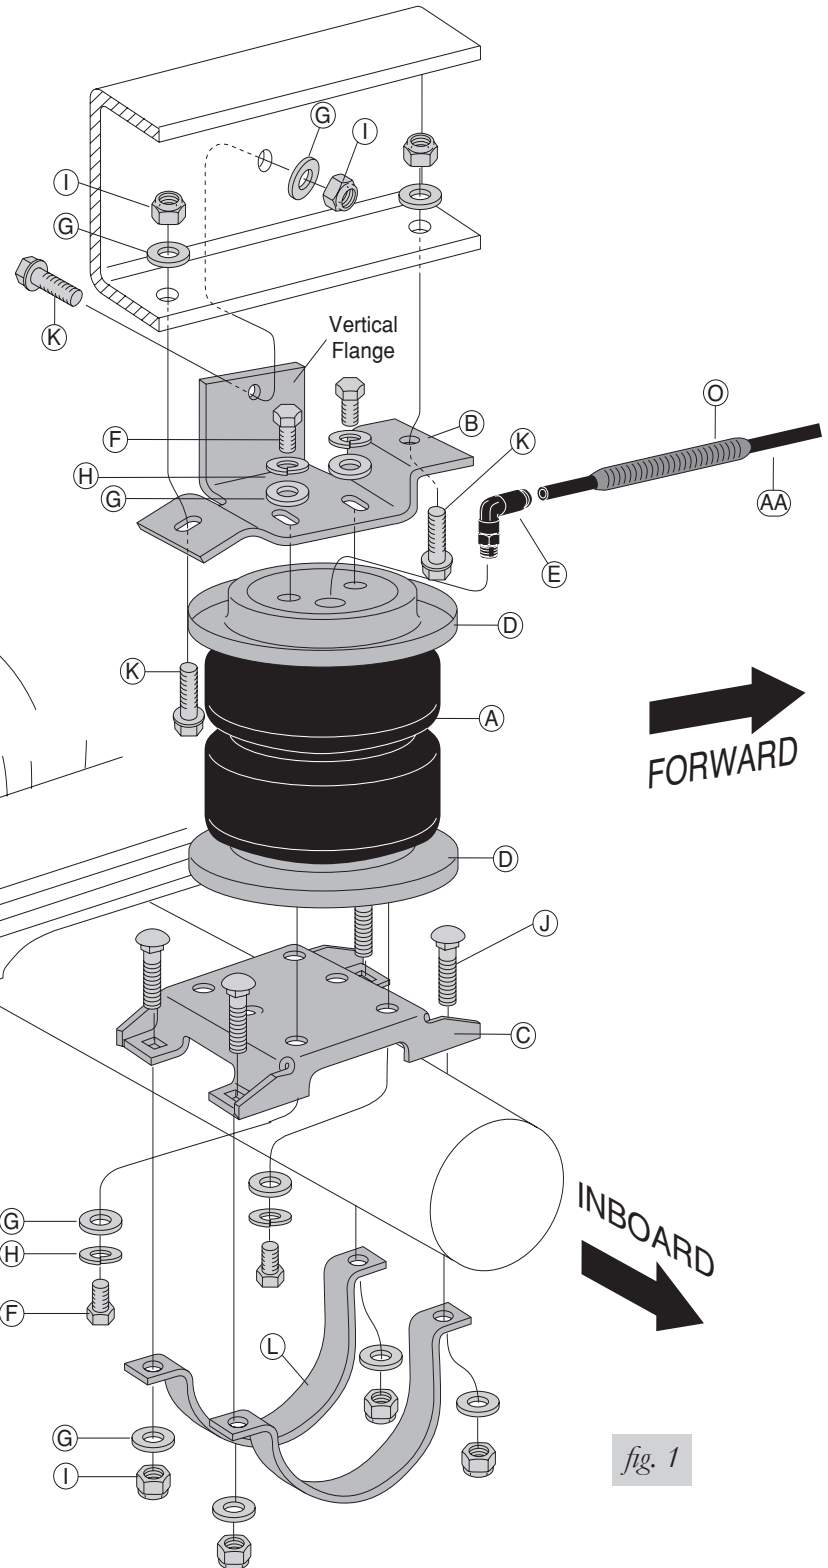

fig. 1
1. Set the assembly on the axle housing and align it so that the air springs follow the natural arc of the suspension travel (Figures 1 and 4).
2. Loosely attach the lower bracket to the axle housing using four carriage bolts (J), two axle straps (L), four flat washers (G), and four nylock nuts (I). Refer to Figures 1 and 4.
5. Install a frame bolt (K), flat washer (G), and nylock nut (I) to each of the previously drilled holes (Figures 1 and 7). Tighten to 16 ft-lbs.
7. Install a frame bolt (K), flat washer (G), and nylock nut (l) to the previously drilled hole (Figure 1). Tighten to 16 ft-lbs.
8. With the unit aligned vertically and horizontally (the upper bracket is slotted for in and out adjustment), tighten the lower assembly to the axle housing. It is important to tighten the forward straps to the lower bracket first, and then the back. Tighten the lock nuts (J) to 16 ft-lbs.